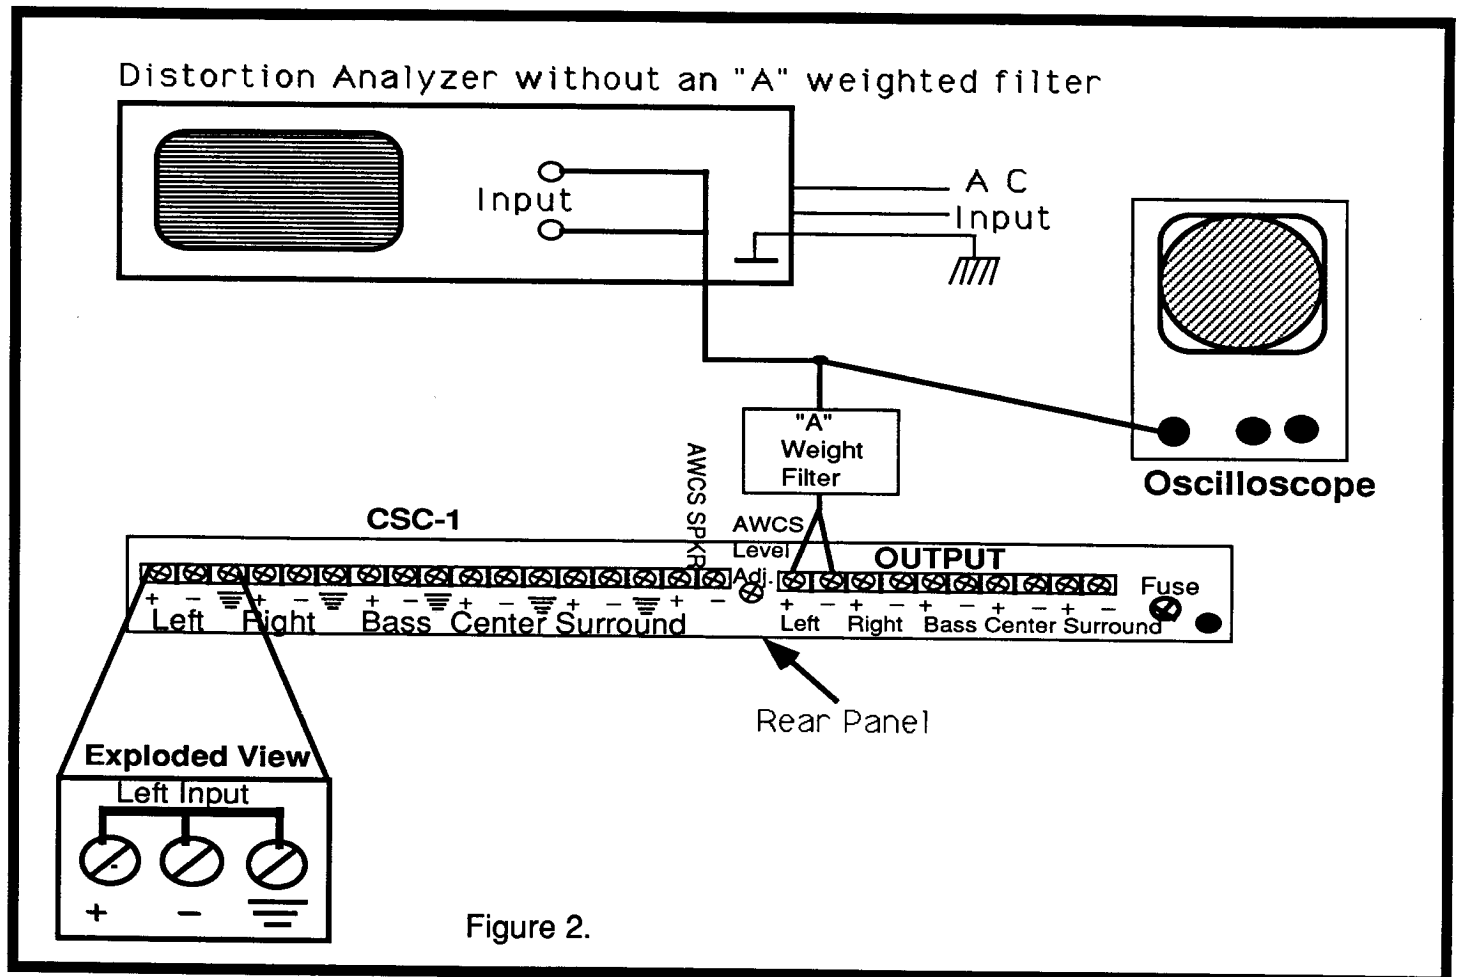

Figure 2.
1. Connect the CSC-1 as seen in Figure 2.
2. Short the positive (+) and negative (-) inputs to ground as in Figure 2 (exploded view).